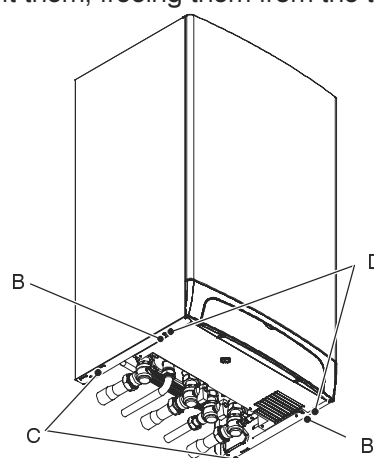

Fig. 2.3 – bottom view of the boiler
To remove the side panels loosen the screws B and C (Fig. 2.3), bring the base of the panels away from the boiler and lift them, freeing them from the top hooks.
- 2 Loosen the screws B and C (Fig. 2.3).